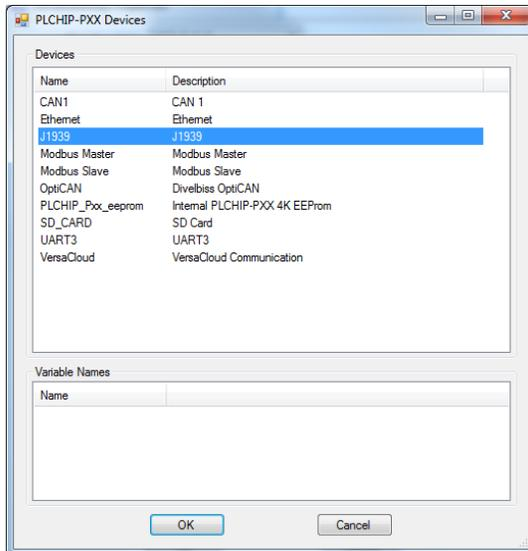

Figure 2-33 - PLCHIP-PXX Devices - J1939
4. Click / select **J1939** (highlight). Refer to Figure 2-33.